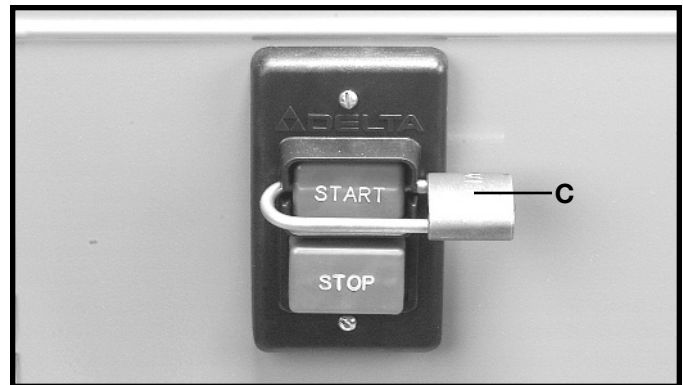

Fig. 18
IMPORTANT: When the tool is not in use, the switch should be locked in the **"OFF"** position to prevent unauthorized use, using a padlock (C) Fig. 18 with a 3/16" diameter shackle.